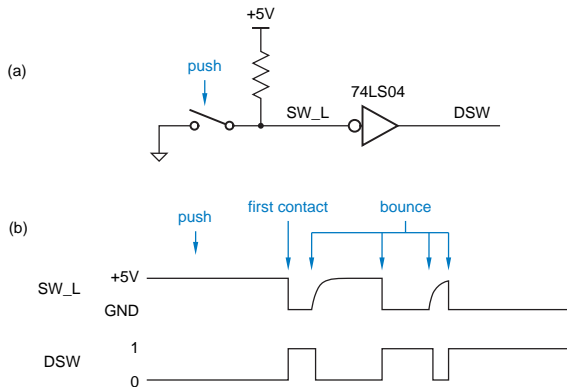

Figure 4: Switch input without debouncing.
- Fig. 4 shows how a single-pole, single-throw (SPST) switch is used to generate a single logic input